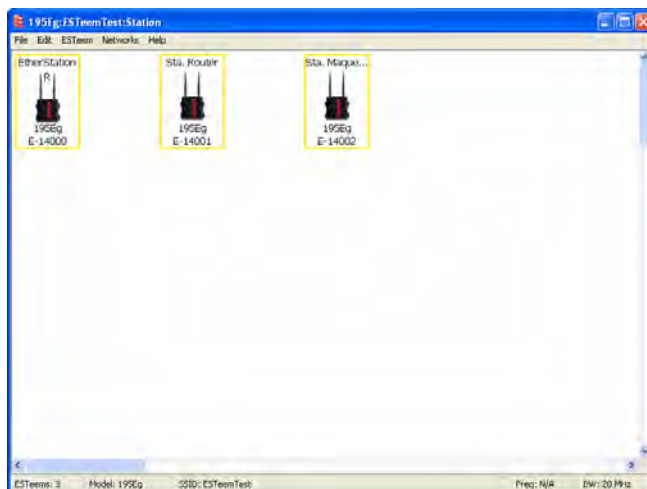

Figure 24: Station Mode Example Modems
2. Add the three mobile client modems to the ENC Utility configuration page as instructed above and set the Modem ID to match the three modes of operation. Your configuration will appear as in Figure 24.
Technical Tip: The ESTeem 210's in Mobile Client modes do not have a specific frequency of operation as can be seen in Figure 24.